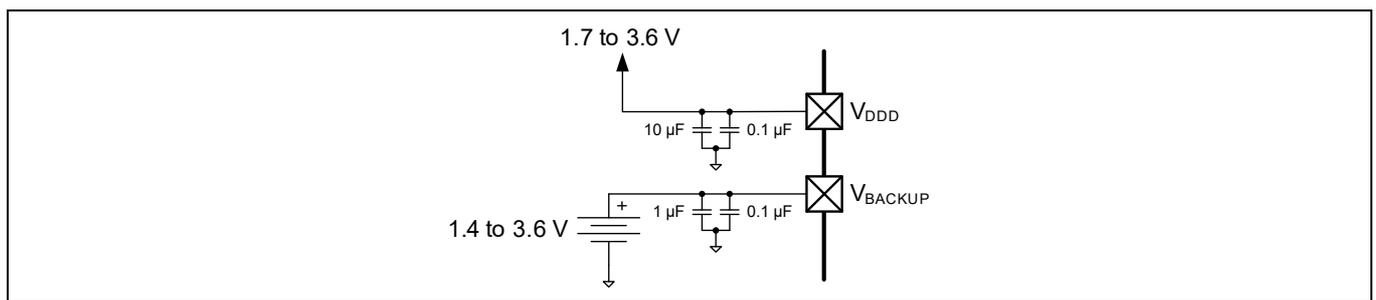

Figure 15 Separate battery connection to V_{BACKUP}
- V_{BACKUP} : the supply for the backup domain, which includes the 32-kHz WCO and the RTC. It can be a separate supply as low as 1.4 V, for battery or supercapacitor backup, as Figure 15 shows, otherwise it is connected to V_{DDD} . It powers I/O port 0.